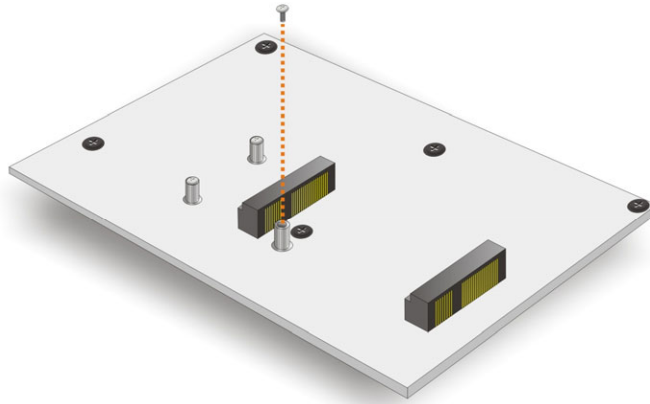

Figure 4-12: Remove the Retention Screw for the Full-size PCIe Mini Card
- Step 2:** Remove the retention screw. Remove the retention screw secured on the motherboard as shown in **Figure 4-12**.